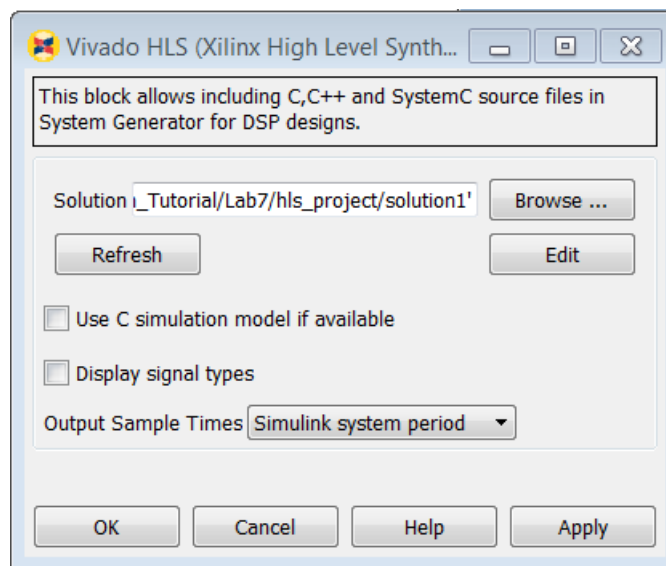

Figure 83: Importing Vivado HLS IP
7. Use the **Browse** button to select the solution created by Vivado HLS in Step 1, at `C:/SysGen_Tutorial/Lab7/hls_project/solution1`, as shown in Figure 83: Importing Vivado HLS IP.